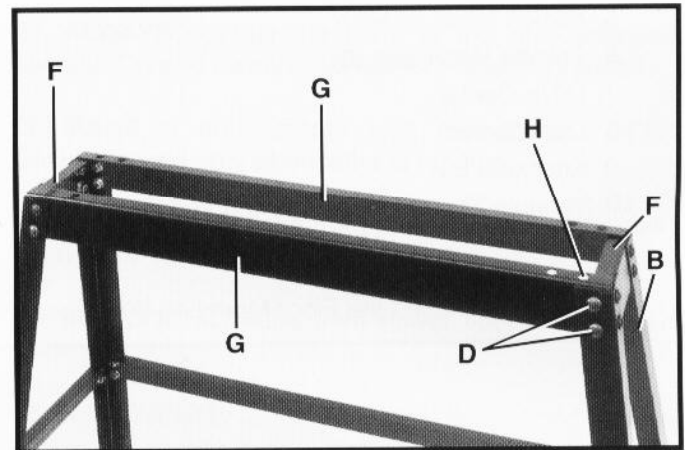

Fig. 5
4. Assemble two 6 inch-long tie bars (F) Fig. 5, with flanges up, to the top of stand legs (B) using eight carriage bolts (D), flat washers, lockwashers, and hex nuts. **NOTE:** Do not tighten hardware at this time.
5. Assemble two 32 inch-long tie bars (G) Fig. 5, with flanges up, to stand legs (B) using eight carriage bolts, flat washers, lockwashers and hex nuts (D). **IMPORTANT: FLANGES OF TIE BARS (G) SHOULD REST ON TOP OF TIE BARS (F).**